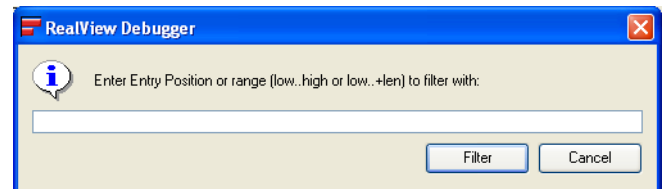

Figure 9-12 Filtering on a position match
1. Select **Filter** → **Filter on Position...** from the Analysis window menu to open the Prompt dialog box. Figure 9-12 shows an example: